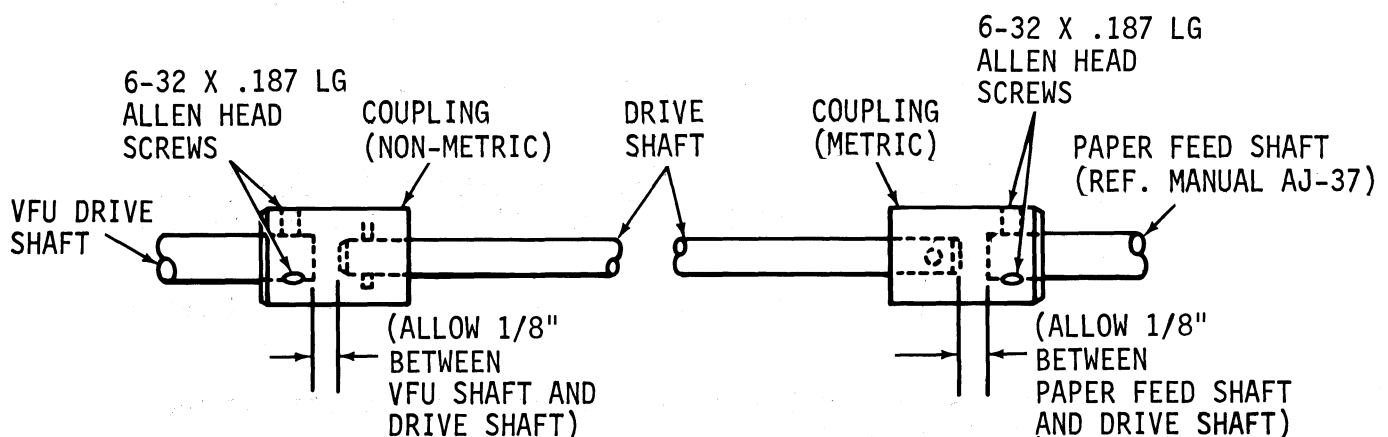

Figure 5-10. REMOVAL/REPLACEMENT OF DRIVE SHAFT 63060143-1 AND COUPLINGS FOR VFU ASSEMBLY
Remove/replace tape reader assembly 63060125-1, or -2 (alternate) using kit no. 63060173-1 from parts list shown in Figure 8-19 and Figure 5-10 as follows:
5. To replace or install VFU unit, reverse steps D.1. through D.5., and use Fig. 5-10 for reference.
2. Loosen two set-screws on right-hand coupler (metric I.D.) on form feed shaft (Fig. 5-10).
3. Manually rotate drive shaft (Fig. 5-10) in a clockwise direction and observe the Top of Form (TOF) (channel 7) and the Vertical Tab (VT) hole (channel 5) as they move toward the rectangular slit holes on the lower tape reader.